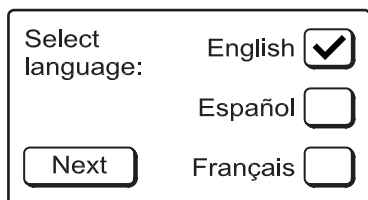

FIG. 15
- 1. LANGUAGE:** If the desired language is not checked (See Figure 15), press the button next to the desired language, then press the NEXT button.